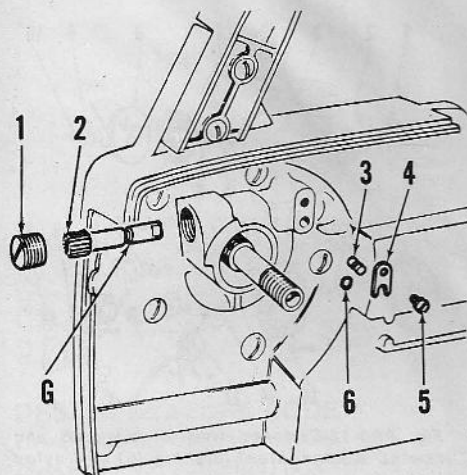
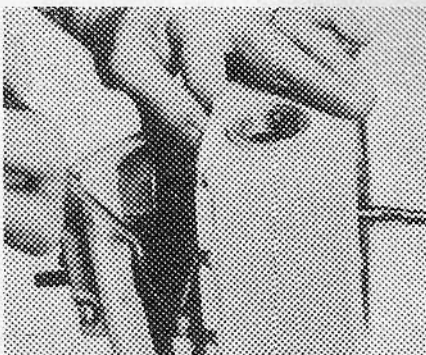

Fig. PR4-4—The oiler pump (2) is rotated by a worm gear on crankshaft.
Fig. PR4-8—Chain lubricating oil line must be disconnected before removing the main bearing housing.
The oiler reservoir should be filled with Pioneer Chain Oil winter or summer grade, or, if not available, use a good grade SAE 10 to SAE 40 motor oil depending upon prevailing temperature. The manual chain oiler pump is shown at (21 thru 25—Fig. PR4-2). The inlet check valve to pump (24) and the outlet check valve (25) are also special fittings. Do not substitute standard fittings for the special ones containing chain oiler check valves. An automatic chain oiler is used on some models. Pump shaft (2—Fig. PR4-4) is rotated by a worm gear on the
rear handle, cylinder, piston and connecting rod. Remove screws attaching main bearing housing to crankcase, then disconnect chain oiler line (Fig. PR4-8). On models with automatic chain oiler, remove pin (3—Fig. PR4-4), plug (1) and pump shaft (2) before removing main bearing housing.